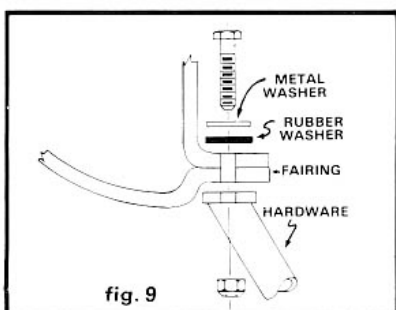

fig. 9
C. Installing the Fairing (Figure 9)
3. Loosely attach the fairing to the mounting bracket by fastening bolts in the rear holes only. **NOTE: ONLY RUBBER WASHERS MUST BE IN CONTACT WITH FAIRING.** The metal washer is placed above the rubber washer - see figure 9.